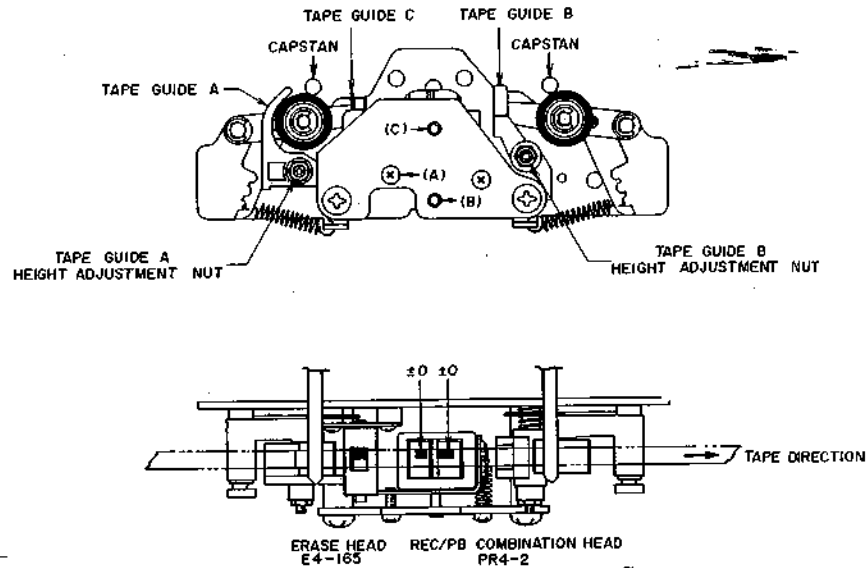
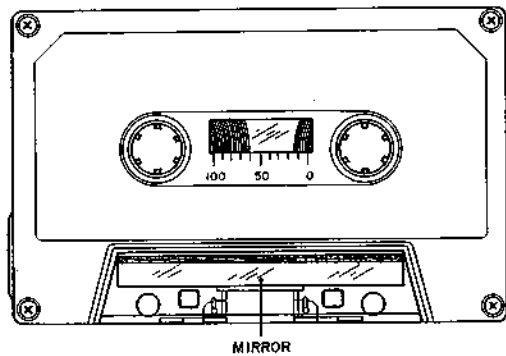

Fig. 20
Fig. 21
(Refer to Fig. 20 and Fig. 21)
- 1) When using an ordinary cassette, the tape guides and heads, etc. are not visible. As shown in Fig. 21, use a cassette tape from which part of the cassette case has been cut out and a mirror installed for easy visibility of the head area when making tape guide height adjustment.
- 2) At playback mode, using the erase head guide C shown in Fig. 20 as standard for height, adjust tape guide A and tape guide B height with tape guide height adjustment nuts so that the tape runs smoothly and does not touch on the tape guides.
(Refer to Fig. 20)
- 2) As shown in Fig. 20, adjust head height with screws (A), (B), and (C) until the upper edge of the tape is the same height as the upper edge of the left channel REC/PB Comb. head core.
3. AZIMUTH ALIGNMENT ADJUSTMENT OF RECORDING/PLAYBACK COMBINATION HEAD (Refer to Fig. 20)
- 1) Playback a 10 kHz pre-recorded cassette azimuth alignment test tape and adjust screw (A) shown in Fig. 20 to obtain maximum output on both channels.
- 4) Set Monitor Switch to "TAPE" position and adjust screw (A) shown in Fig. 21 to obtain maximum output on both left and right channels.
4. When a mirror installed cassette test tape as shown in Fig. 21 is required, it can be ordered from AKAI Electric Co.